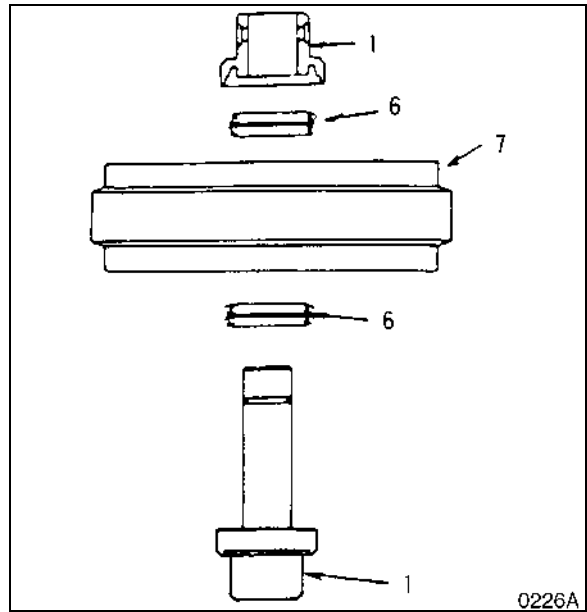

Figure 23
4. Detach the group seal (6, Figure 23) from the idler (7) and bearing (1).